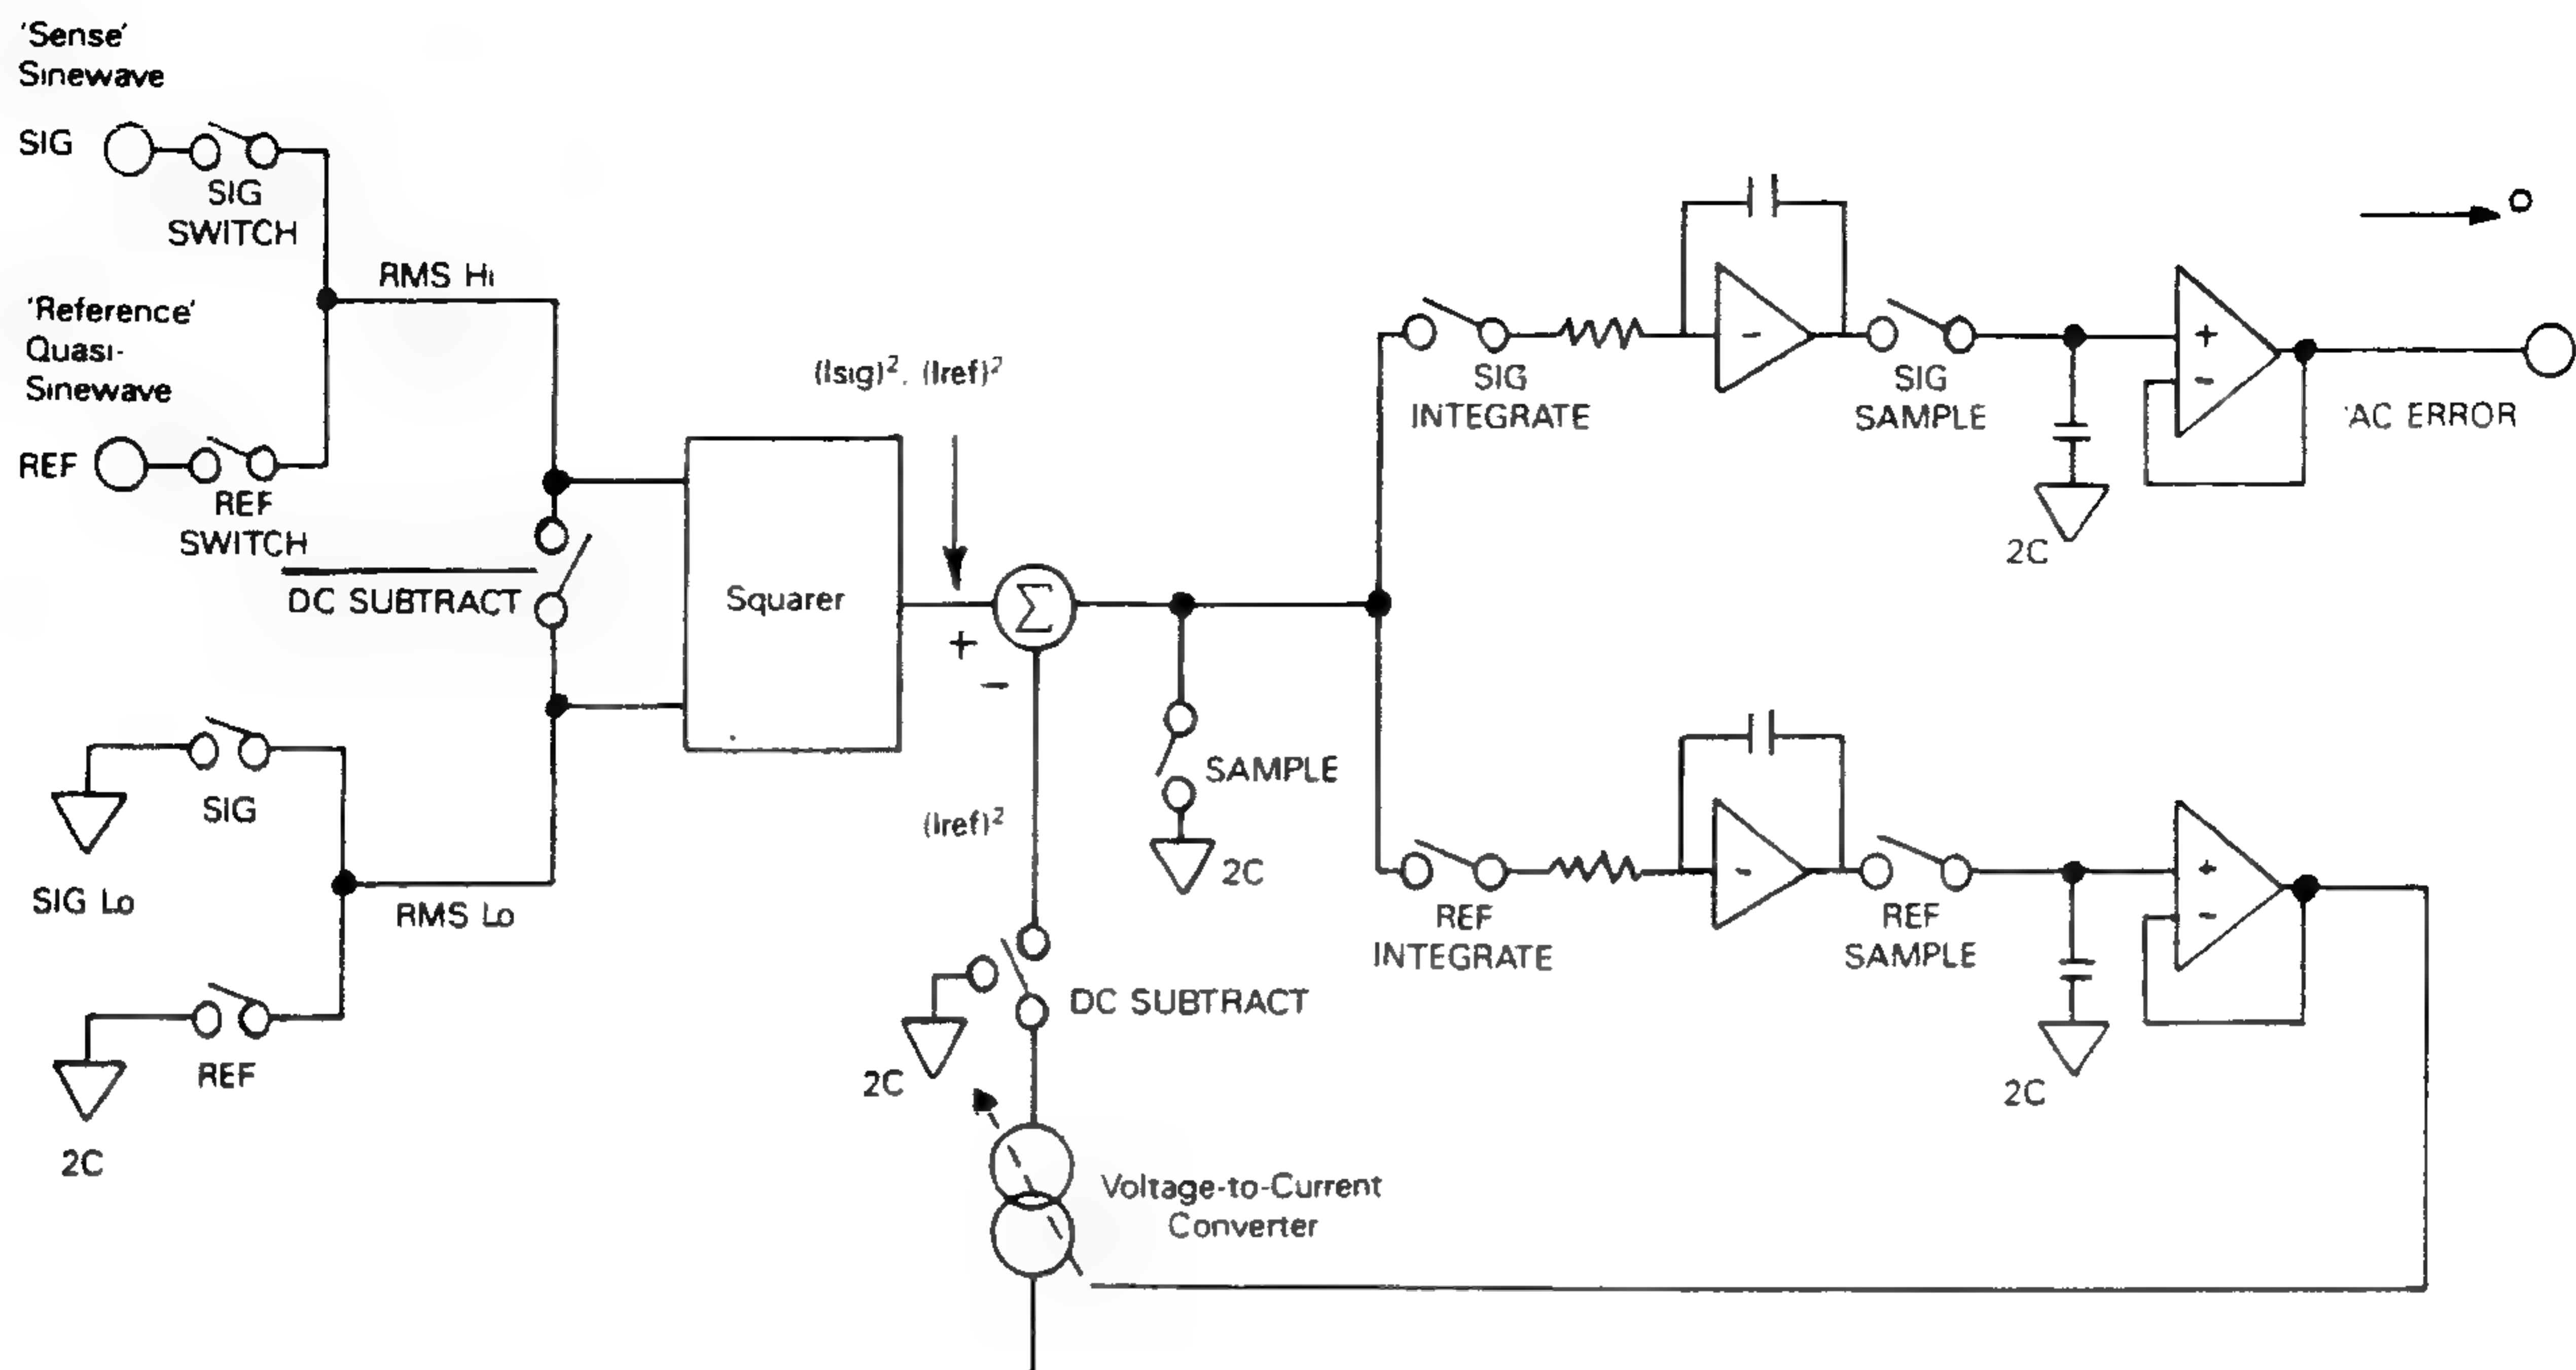

FIG. 9.10 SINE/QUASI-SINE COMPARATOR - BLOCK DIAGRAM
9.9.3 METHOD OF COMPARISON (Figs. 9.10 and 9.11)
(Figs. 9.10 and 9.11)
The table in Fig. 9.11 shows the conduction patterns of the switches in the block diagram of Fig. 9.10, within a complete sequence cycle. The cycle is broadly divided into two similar patterns ('REF' and 'SIG'), each occupying five quasi-sinewave periods. The cycle repeats continuously.